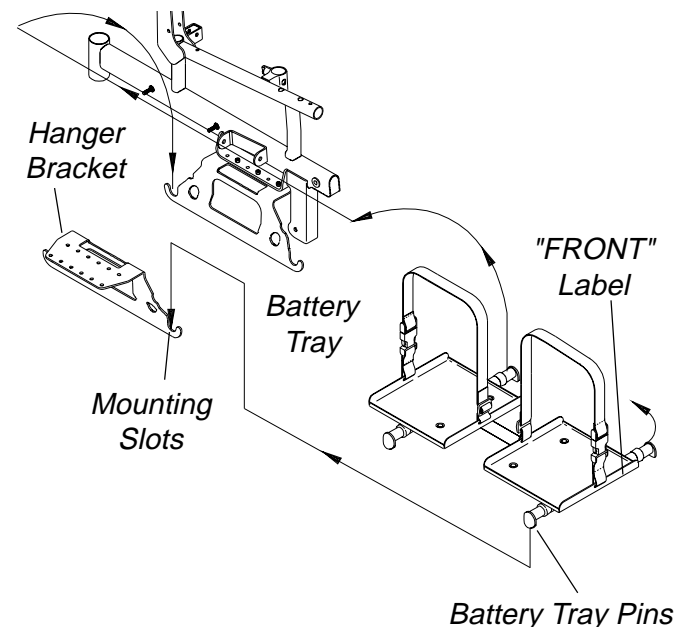

FIGURE 7 - BATTERY TRAY
4. Position retaining straps around each battery box as shown in DETAIL "A" of FIGURE 7 and clip retaining strap together.
BATTERY TRAY (FIGURE 7)